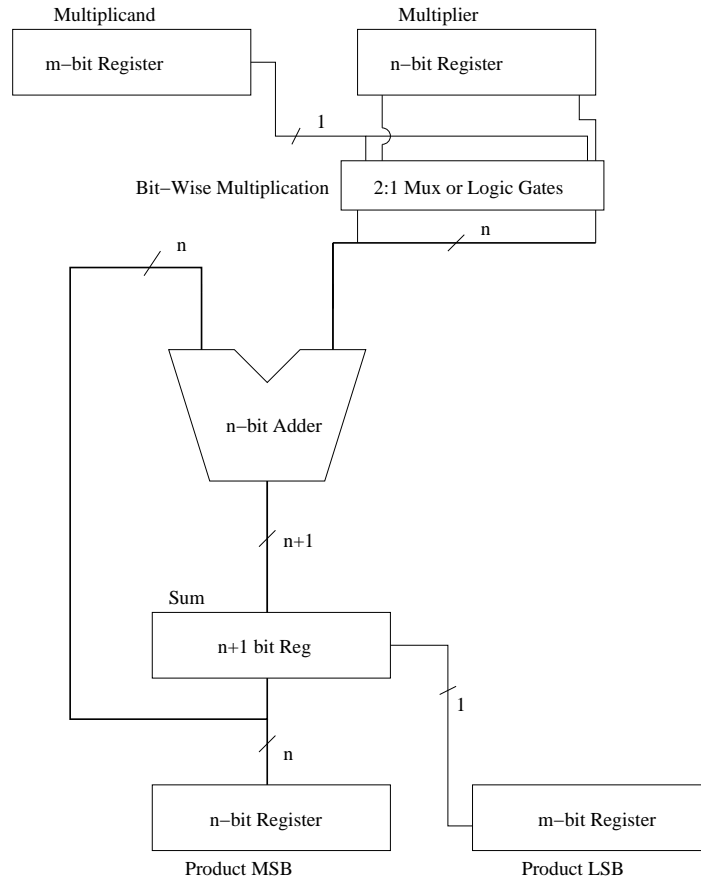

Figure 1. m -bit \times n -bit Serial Multiplier.
The multiplier architecture will be implemented using the bit-serial implementation described in figure 1. The multiplication is implemented by performing m -additions. The clock must run m times faster than the multiplier output word rate.
- 1) The multiplier will use the architecture in figure 1 with $m=n=8$.
- 5) It is up to your team to decide on the implementation of the blocks in figure 1, appropriate control/timing and the pin out.